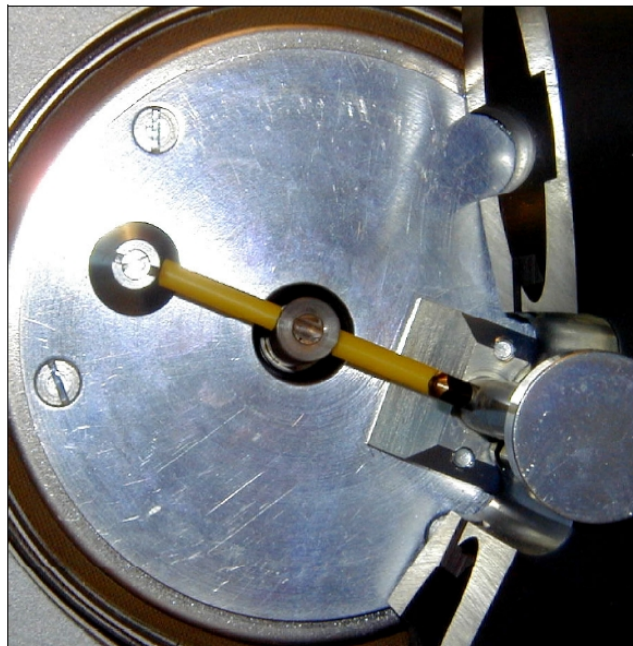

Figure 2: Correct angular position
3. Send command "i" - the tool must stop in the axis of hexagonal key, as seen in Figure 2.